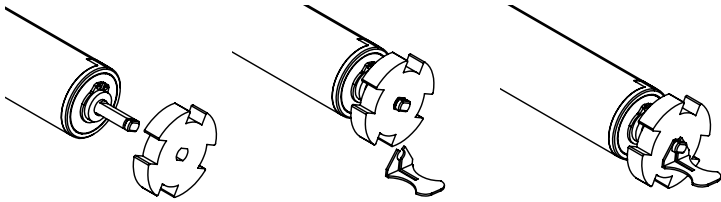

Figure 9. Slide the drive on
Step 5. Slide the driver onto the end of the motor shaft. Then snap the drive retainer onto the motor shaft as shown in **Figure 9**.